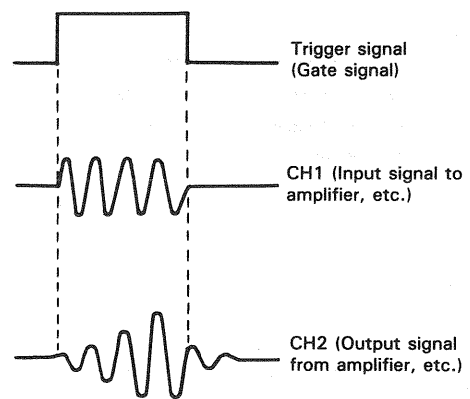

Fig. 7
For example, Fig. 7 shows that the sweep circuit is driven by the gate signal when the gate signal in the burst signal is applied to the EXT TRIG INPUT jack. Fig. 7 also shows the input/output signals, where the burst signal generated from the signal is applied to the instrument under test. Thus, accurate triggering can be achieved without regard to the input signal fed to the INPUT ⑤ or ⑨ jack so that no further triggering is required even when the input signal is varied. When the vertical MODE is set to TRI, triple-trace display is provided and the signal applied to EXT/CH3 is to be used to trigger the sweep, with INTERNAL sync possibility.